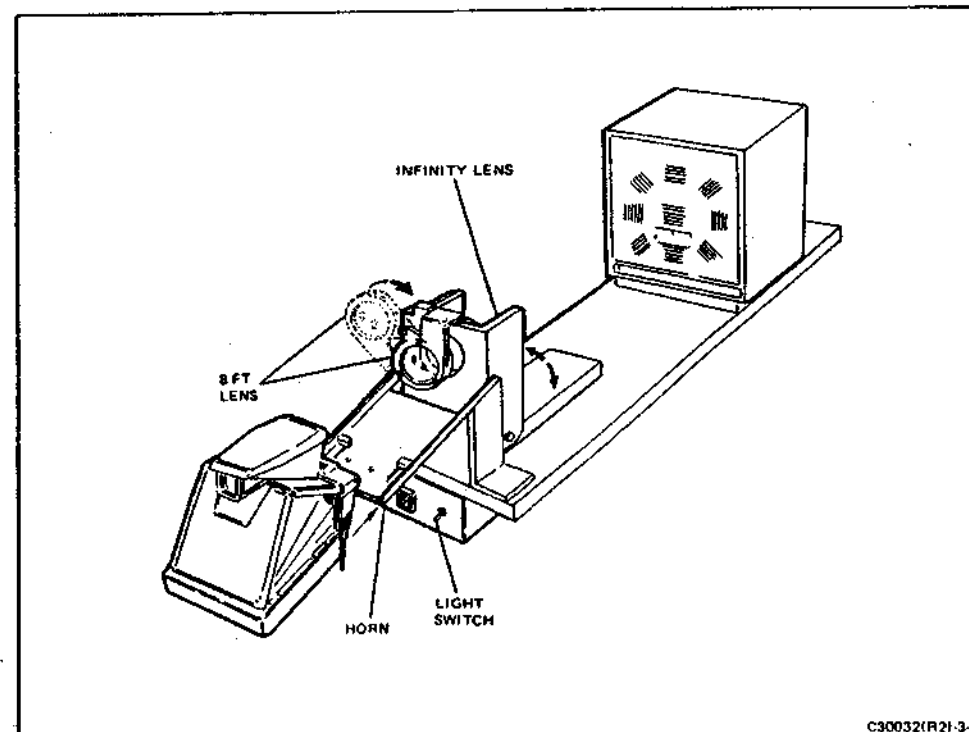
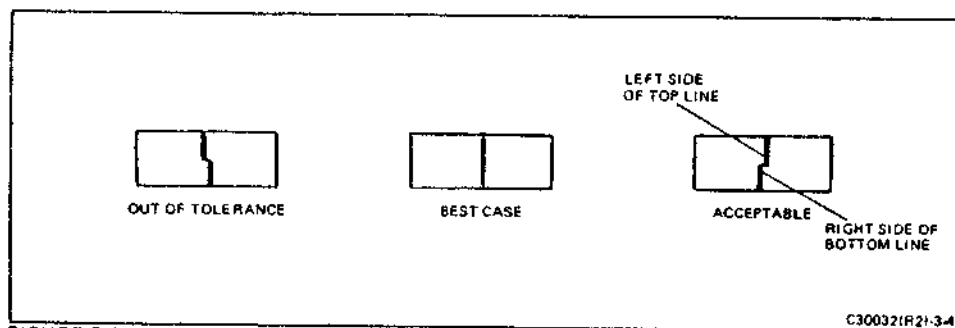

FIGURE 3-2 SX-70 COLLIMATOR
FIGURE 3-4 TYPICAL COLLIMATION CONDITIONS
2. Collimator (Figure 3-2)
- (1) Remove the camera front cover and load the camera onto the horn of the collimator #321 S64 (Figure 3-2). (The collimator uses a rear-illuminated target so no additional equipment is needed.)
- (2) Turn on the collimator light.
- (3) View the added target with the focus wheel set to infinity.
- (4) Compare the observed conditions with the examples shown in Figure 3-4. As indicated (best case), the upper part of the vertical line should be aligned with the bottom part of the line or it may be displaced to the right. (If displaced to the right (acceptable), it should still be touching the lower part of the line.)
- (5) If the upper part of the line is displaced to the right so far that it does not touch the lower part of the line or if it is displaced to the left (out of tolerance), the tolerance levels are exceeded and the camera must be rejected. Corrective procedures are outlined in Section 4.
- (6) Verify the infinity setting. Do this by observing the vertical line target through the collimator infinity lens and the camera optics. The line should be straight within the tolerance shown in Figure 3-4.
- (7) Swing the collimator infinity lens back down to its horizontal position, out of the viewing path of the camera. Turn the camera focus wheel to the 10.4" setting.
- (8) Look through the camera and observe the vertical line target. Compare the observed image with Figure 3-4 to determine if the camera is within specifications.
- (1) Set the camera focus to infinity and the L/D control to mid-range. Set the power supply to 5.8 volts.
- (2) Remove the front cover from the camera and install the S7 switch actuator.
- (3) Install the camera on the horn of the tester. The camera should go through its dark-slide cycle.
- (4) Remove the camera from the tester and set it on the collimator.
- (5) Swing the 8' and infinity lenses into their vertical positions on the collimator and look through the camera eyelens.
- (6) Turn the focus wheel until the vertical line in the center target is straight (refer to Figure 3-4). The camera is now collimated for the 8' setting. Tape the focus wheel so it can't be accidentally moved.
- (7) Remove the camera from the collimator and place it on the tester.
- (8) Install the flash simulator plug into the socket on the camera and close the S2 CLOSE-OPEN SWITCH.
- (9) Set the light level selector to 800 cdl/ft².
- (10) Set the flash mode aperture switch to 8'.
- (11) Block any light from the photocell on the camera using a square of cardboard or other material.
- (12) Depress the exposure button and observe the APERTURE meter.
- (13) Record the 8' APERTURE reading and compare it to the STANDARDS Chart.
- (14) Remove the tape from the focus wheel and rotate the wheel to the 10.4" setting.
- (15) Set the flash mode aperture switch to 10.4".
- (16) With the photocell still blocked, press the exposure button and observe the APERTURE meter.